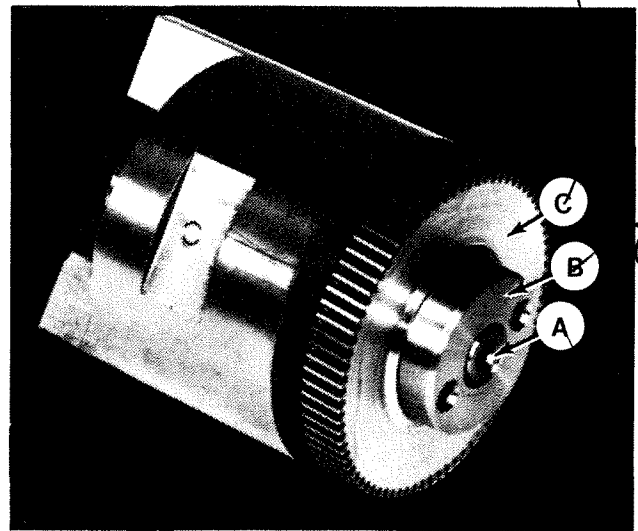

Figure 3.18 - Worm Wheel and Drive Cartridge
5. Hold shaft "A", Figure 3.18, with a hex wrench and remove nut "B" with an adjustable spanner wrench.
5. Mount worm wheel "C", Figure 3.18 .